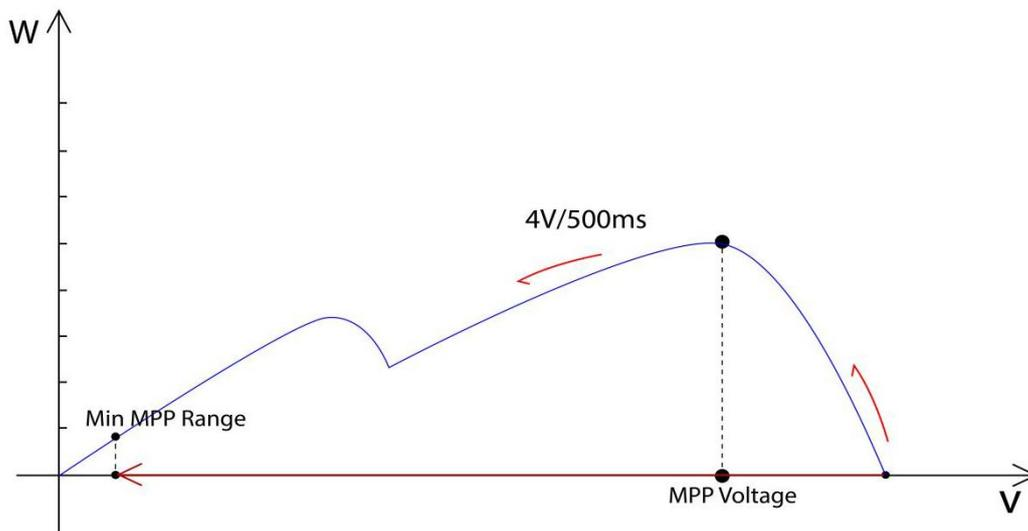

Fig 5. Scan Whole Voltage Range
* SECOND STEP: Scan Whole Voltage Range (Fig 5)